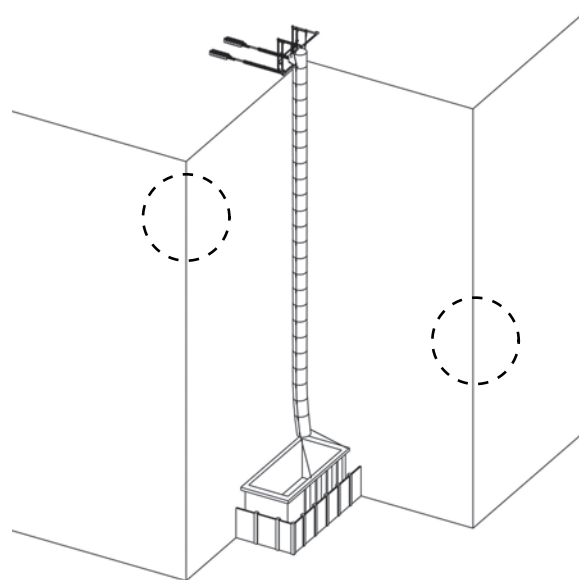

Fig. 27 Chute installed in an inset corner.
- Inset corners generally provide excellent shelter from the wind. Whenever possible, install the chute in an inset corner (see Fig. 27). Note the protruding corners (circled).